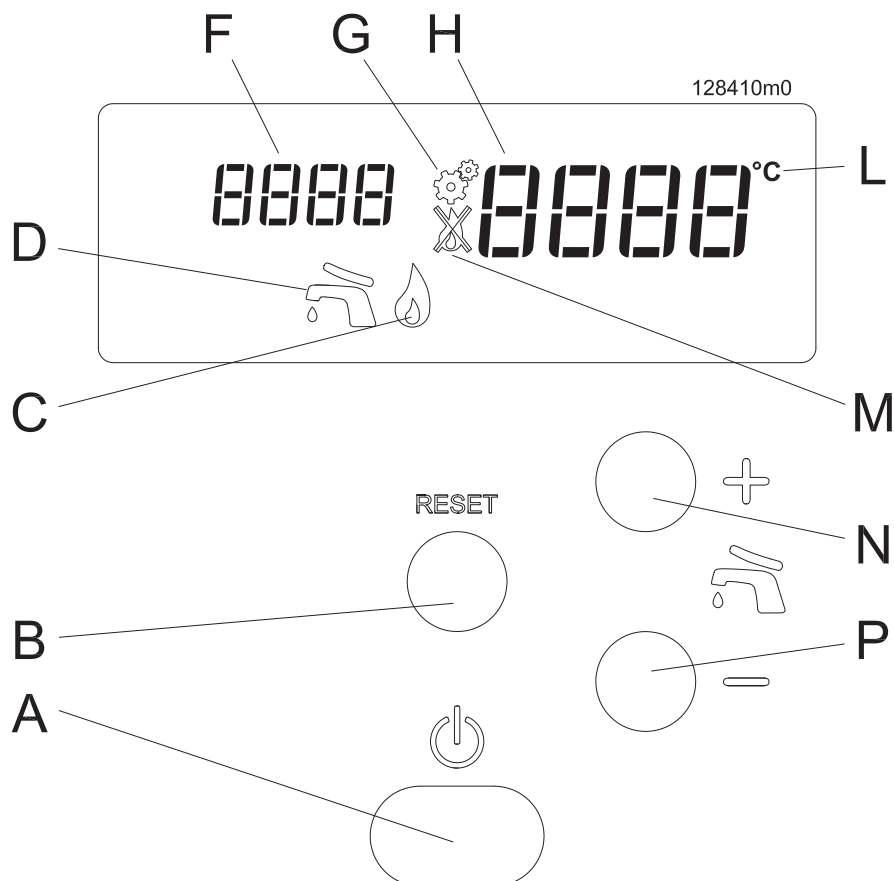

Figure 7-1 - Control panel
1. turn the power switch (item "A" in Figure 7-1) to on;
Key for figure 7-1
Entry into the "User menu" is highlighted by the visual display "F", in figure 7-1, which indicates parameters that can assume values from **100 1** to **1999**. To enter the "User menu":
operating on the   and   keys. On pressing one of the two keys, the visual display "H" in figure 7-1 will start to flash and show the temperature that is being set. The range of adjustment for the temperature of the domestic hot water goes from 40°C to 60°C. For higher output temperatures, contact your technician to change the maximum output temperature factory setting, see section 11.
- a.- press the RESET key to access the parameter (the visual display “H” in figure 7-1 will start to flash);